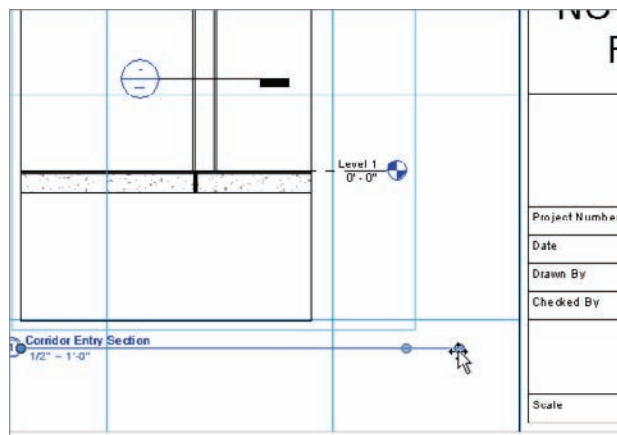

FIGURE 14.15 Stretching the view title line to the right using the blue grip
8. Zoom in on the view title for the Corridor Entry Section, as shown in Figure 14.15.
10. Extend the line by stretching the grip on the right to the right (see Figure 14.15).